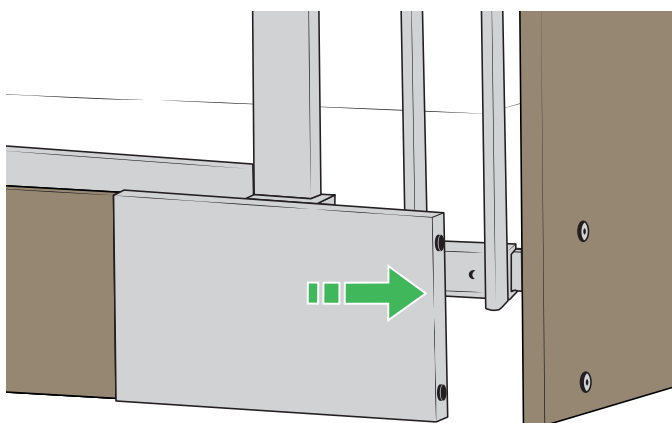

Figure 56
3. Slide the side panel extension all the way towards the footboard. See Figure 56.